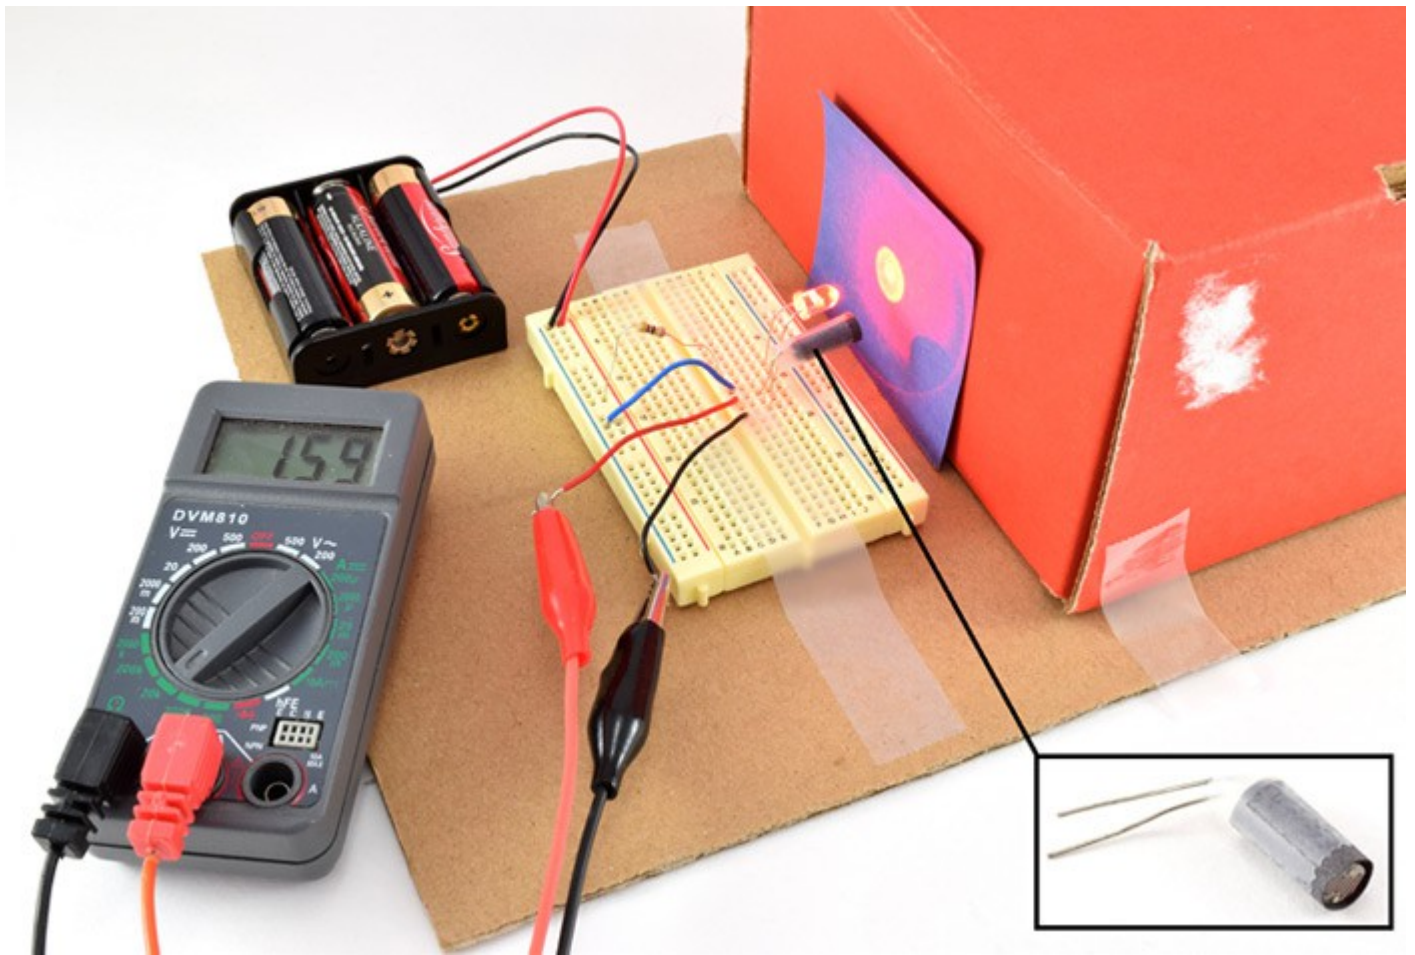

Figure 4. Experimental set up for the light-measuring circuit.
2) Set up the experiment as shown in Figure 4.